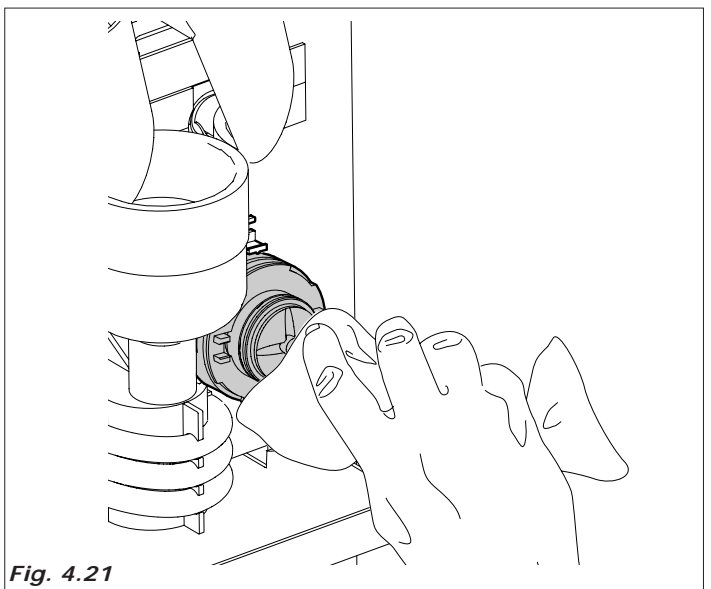

Fig. 4.21
- with a cloth soaked with the solution clean the whipper assembly base (Fig.4.21)